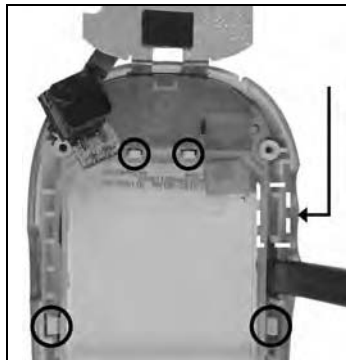

Figure 7-15.
6. Locate one of two larger retaining clips holding lower edge of LCD nearest the main keypad. Insert flat tip of black stick between LCD frame and housing nearest clip. See Figure 7-15.